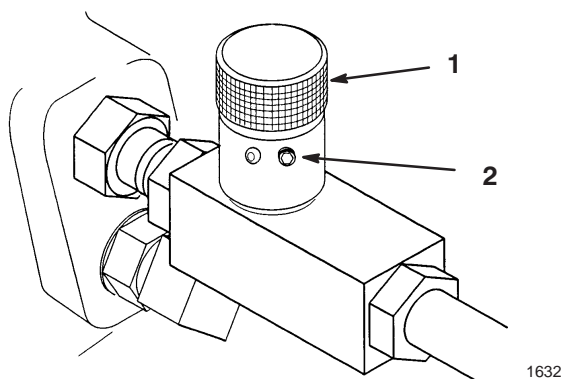

Figure 16
1. Loosen set screw and gently turn adjustment knob all the way to the right to close, then open 1–2 turns (Fig. 16).
3. Cycle raising and lowering snowthrower several times. Rotate knob on flow control valve so a decent rate of approximately 3 seconds is obtained (Fig. 16).
4. Tighten set screw to lock knob in adjusted position. (Fig. 16).